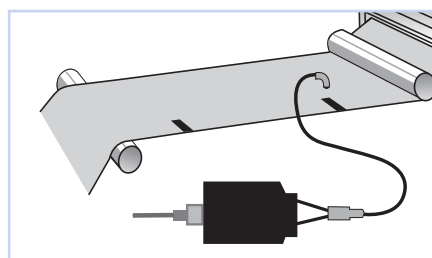

Fig. 1 Straight Position
1. Position the fiberoptic light guide to view material looking straight down. (See Fig. 1)
- A. For a black or dark mark on shiny foil, position light guide to view material looking straight down. (See Fig. 1)